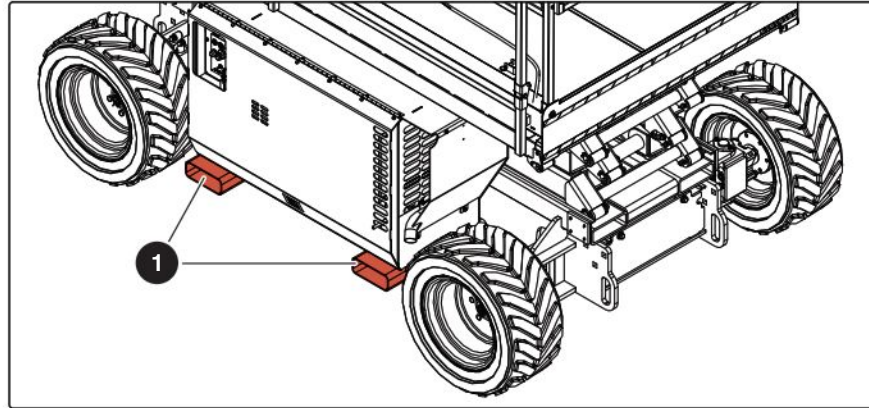

Figure 04 Forklift lift locations
- Lift the MEWP with the forklift forks in the forklift lift locations ①. Refer to Figure 04.